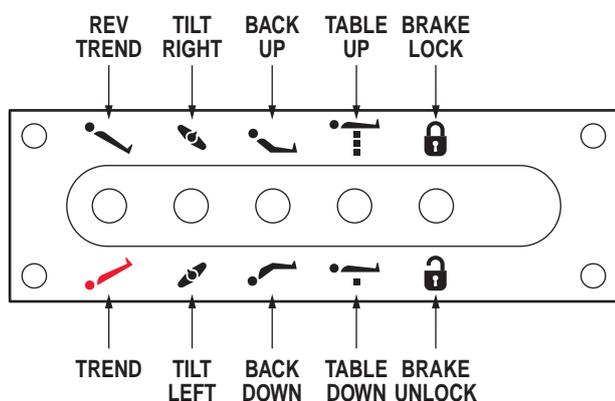

Figure 2-16. Emergency Back-up Controls
b. In the event of either a power failure or a problem with the hand-held pendant control, the table can be operated using the emergency back-up switches. Simply push the desired emergency switch in the appropriate direction to operate the table functions. See figure 2-16.